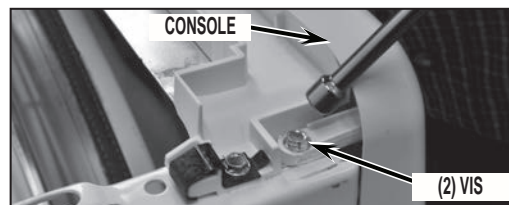

FIGURE 3
- Take the front console and feed the two connectors through the right hole in the upper front bracket. Set the two console bottom corner posts into the front panel top slots and tip the console toward back clicking its top lip over the top edge of the upper front bracket. Reconnect the drum light and main console connectors, *Figure 4*. Reattach the two (2) upper screws, *Figure 3*.
4. Déposer la console – ôter d'abord les deux (2) vis (une vis de chaque côté de la console) aux emplacements identifiés à la *Figure 3*.